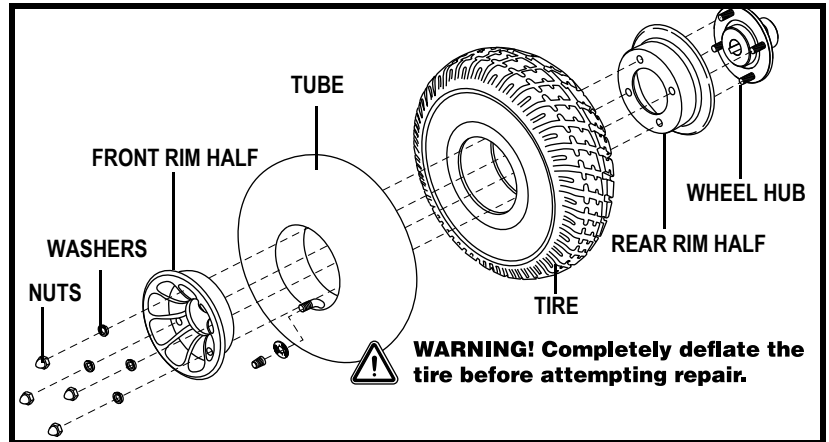

Figure 28. Quantum 1103 Ultra Drive Wheel Disassembled
6. Remove the nuts and washers from the wheel hub to separate the rim halves. See figure 28.